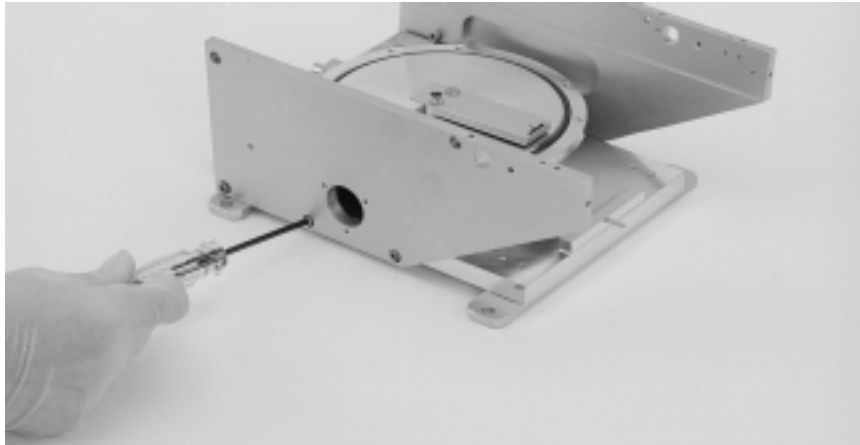

Figure 6-17. Removing the screws that secure the LH pole piece to the base plate
Step 17: Remove the screws that secure the pole pieces to the base plate (see Figure 6-17).